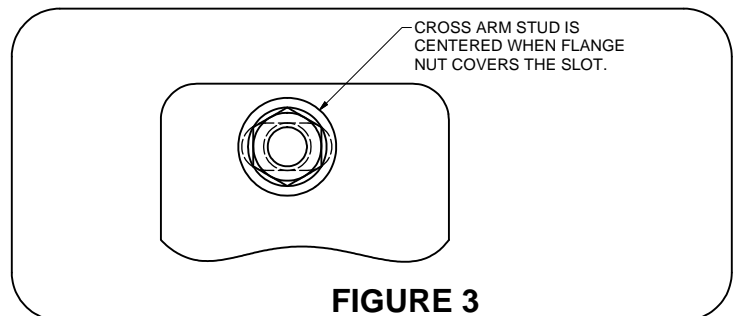

FIGURE 3
9. Rotate the cross arms until they contact the truck bed. Center the rear cross arm studs in the side plate slots as shown in **Figure 3**. Use a 15/16" wrench to tighten the 5/8" flange nuts on the rear cross arm to the side plates. Use the spacer tube provided to evenly space the cross arms. Once evenly spaced tighten the 5/8" flange nuts on the front cross arm. (**Note: Do not tighten front cross arm until cross arms are evenly spaced.**)